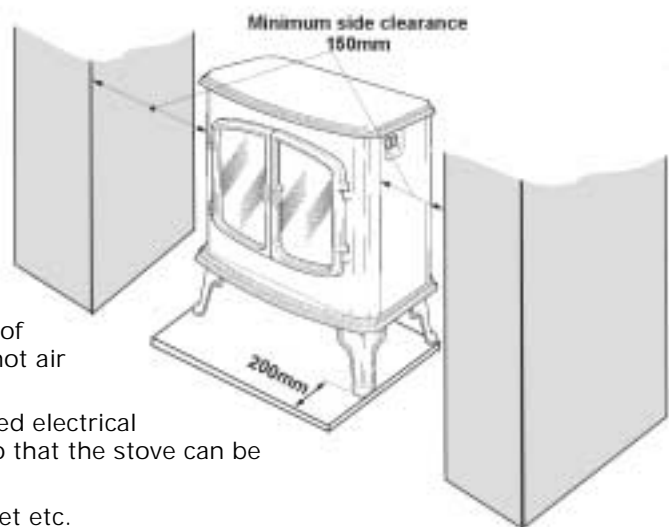

Figure 1
- ▶ If you are placing it in an alcove, make sure that the side clearances are at least as shown in figure 1.
- ▶ Although your stove complies with all the safety standards some types of floor coverings (e.g. vinyl tiles, synthetic deep pile carpets) may be affected by the hot air from the fan. If this could apply to your floor covering, we suggest that you place the stove on a shallow plinth which projects approximately 200mm forward of the front feet (See figure 1).